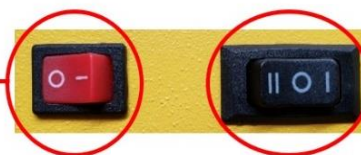

Figure 5
7. Using the Imminent Danger feature (see figure 5 for reference):